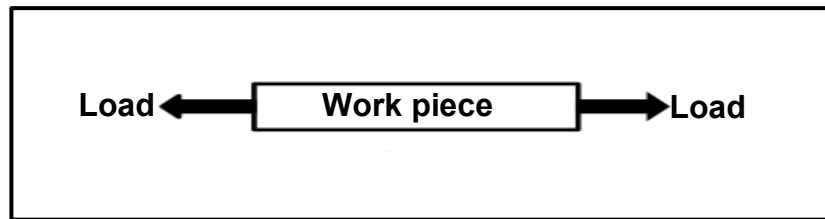

FIGURE 4.13
4.13 Identify the type of load applied to the work piece shown in FIGURE 4.13 below.